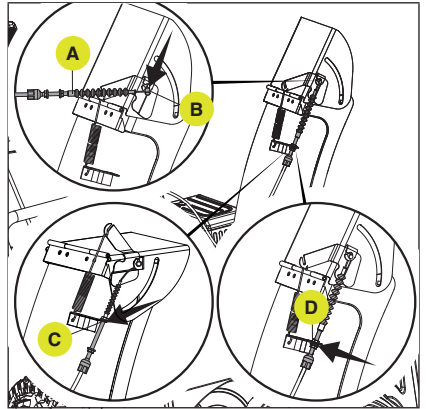

Figure 8
Locate the coiled chute deflector cable (A) and uncoil. Open the chute deflector completely by hand then install the cylindrical end (B) of the cable as shown, ensuring that the chute deflector adjustment handle is at the last or highest position, and then press the chute deflector to hang the cable threaded head into the hole by placing the nut on the top side shown by the arrow (C), then adjust the bottom nut (D) into position to tighten the cable. (Fig. 8)